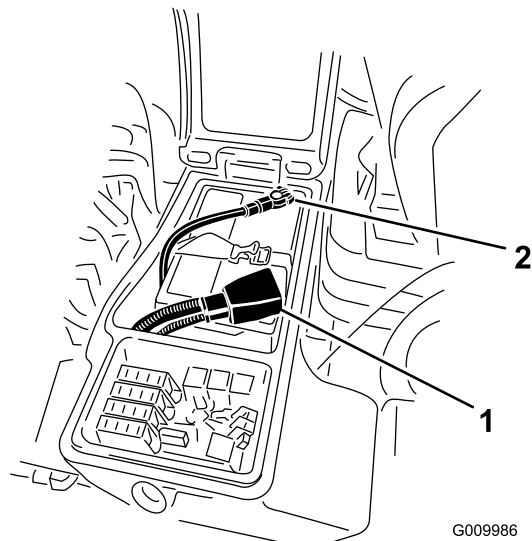

Figure 43
5. Install the positive cable (red) to the positive (+) terminal and the negative cable (black) to the negative (-) terminal of the battery (Figure 43).